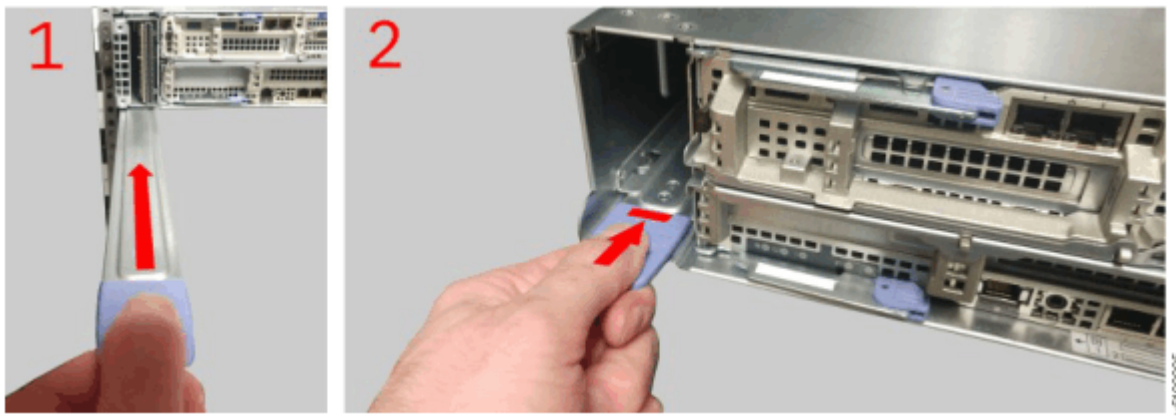

Figure 88. Inserting the new power interposer
5. Hold the power interposer so that the connectors are near the PSU slot, as shown in Figure 88 on page 142 \(1\).
6. Slide the power interposer into the PSU slot until the handle is the only part that is visible at the rear of the enclosure, as shown in Figure 88 on page 142 \(2\).